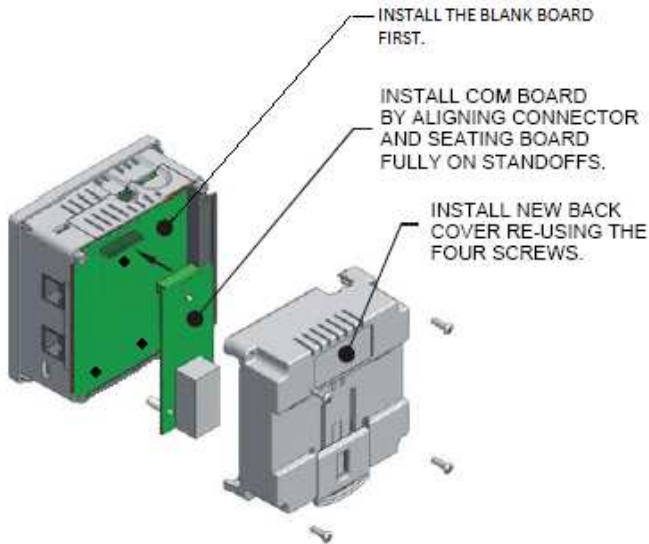

Figure 1. XLE/T with the Adapter board.
2. Remove the four screws on the back of the unit and remove the back cover. Screws are re-used (Figure 1).